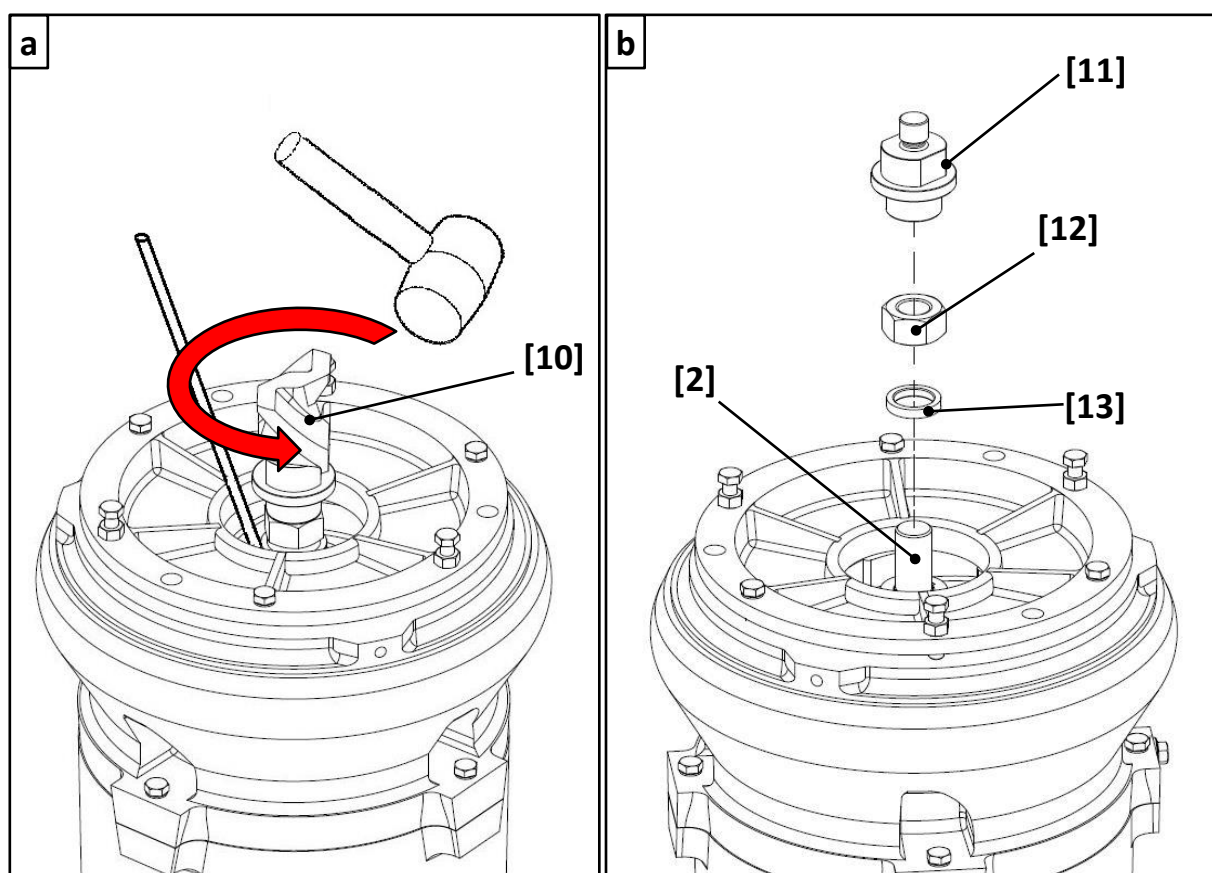

Fig. 29
- maintaining blocked the impeller (e. g. by inserting an iron rod), unscrew the agitator **[10]** by hitting smartly in counterclockwise direction with a hammer (see **Fig. 29**);